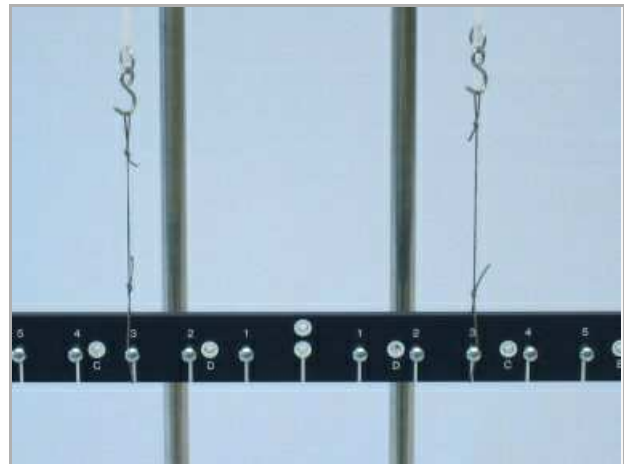

Fig. 11
- Move the loops (and the support base halves) one after another to the 6 and 3 marks (Fig. 11), read both spring balances and record the measured values in Table 1.